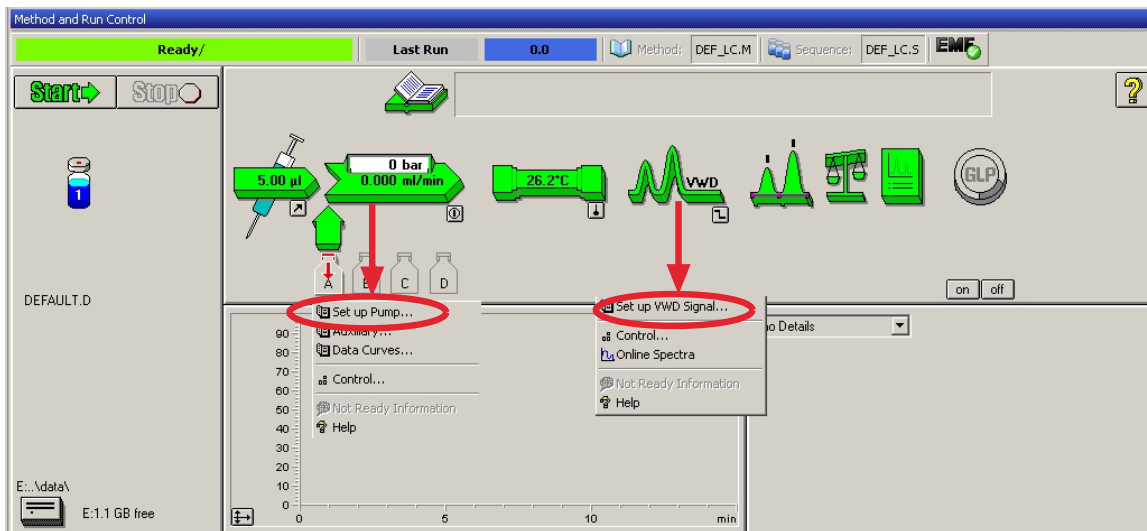

Figure 15 Open the module menu
- 9 Click on the module icons (Figure 15 on page 55) and open the **Setup** of these modules. Figure 16 on page 56 shows the detector settings (do not change the detector parameters at this time).